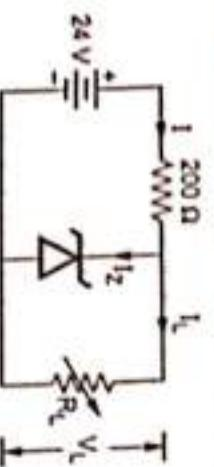

Fig. 1
- c) For the given circuit (Fig. 1) if,  $V_Z = 12 V$ ,  $I_{Z\min} = 1 \text{ mA}$  and  $I_{Z\max} = 50 \text{ mA}$ . Calculate Min. and Max.  $I_L$  and  $R_L$  for which zener diode maintain its regulation.